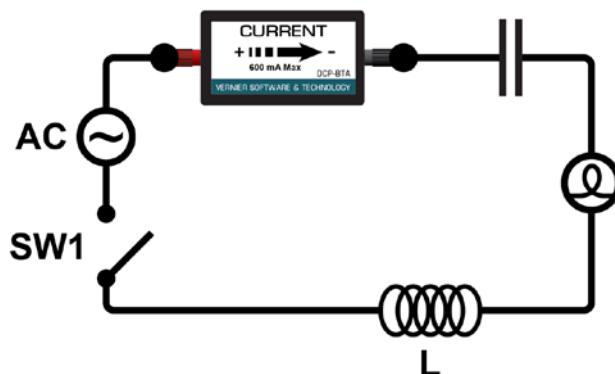

Figure 6
1. Set up the circuit as shown in Figure 6. This is an RLC circuit, containing a capacitor, an inductor, a current probe, and a mini lamp, which serves as the resistor.